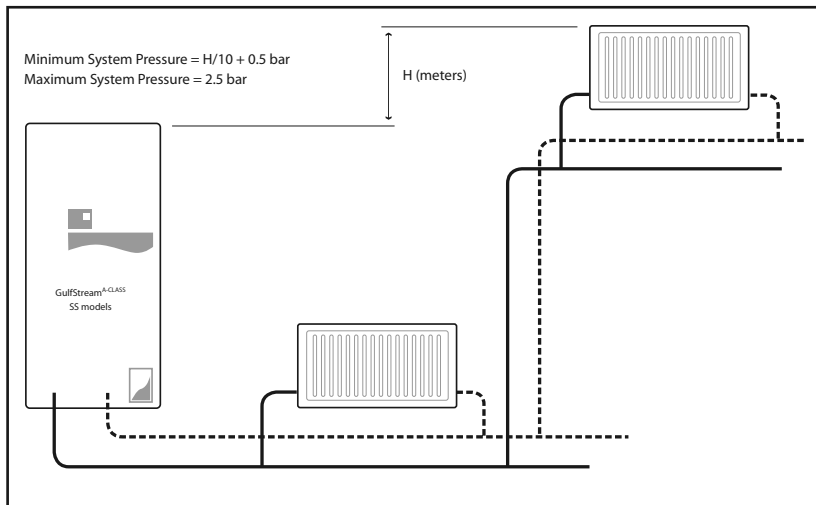
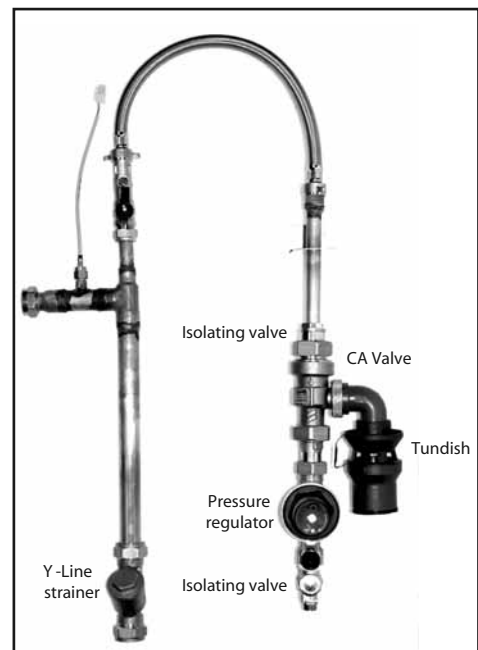
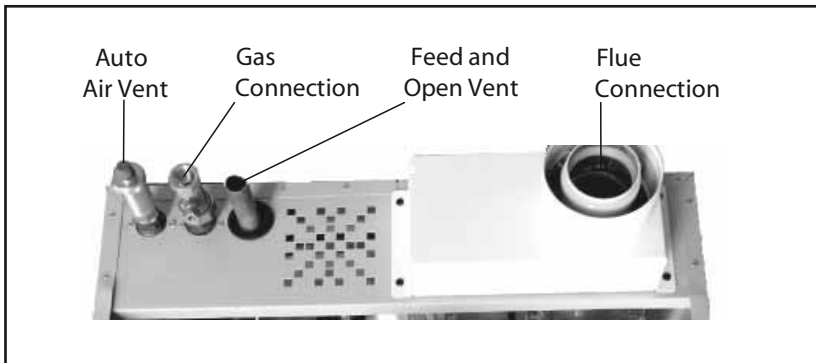

Figure 3.2 Schematic diagram of the sealed heating system
Figure 3.3 CA Filling device
Figure 4.1 Connections at the top
(a) **Sealed System SS models:** These are suitable for sealed central heating systems shown schematically in figure 3.2 and are fitted with an automatic arrangement. Minimum of 2 bar mains pressure must always be available for correct operation of the CA device (figure 3.3) These models incorporate the following additional components:-
CA automatic filling device and pressure regulating valve is set to fill the system to 1.0 bar. This is usually sufficient for the heating systems in most domestic properties. However the minimum system pressure should not be less than "0.5 + H/10" bar as shown in figure 3.2. The system filling pressure can be adjusted by the pressure regulator (see figure 3.3)
- The gas connection, and on the OV model the combined cold feed and open vent connection are located at the top of the appliance. (See figures 3.3, 4.1, 4.2 and 4.3) All other connections are located at the bottom front of the appliance (figure 4.1).